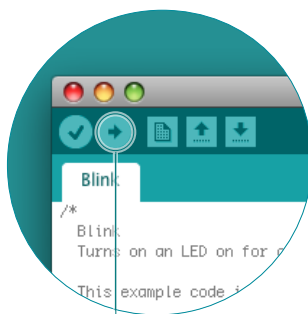

Fig. 1
- 5 To upload the Blink sketch to your Arduino, press the **UPLOAD** toggle in the top left corner of the window. See Fig. 1.